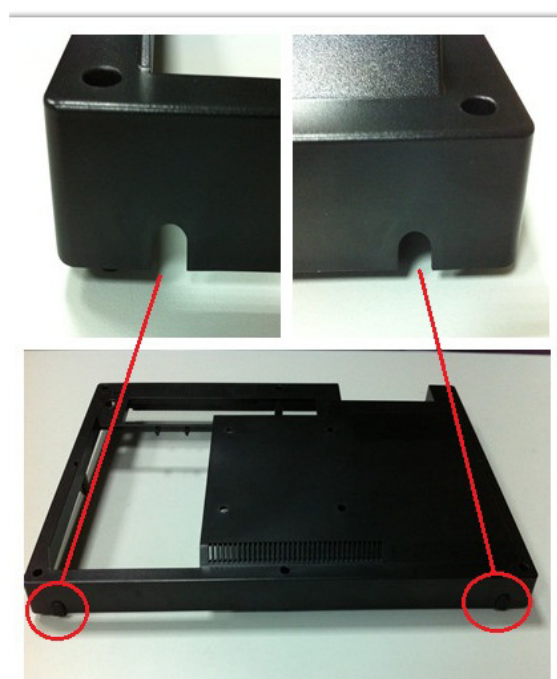

Figure 2.19
3. Remove the two plugs on the left and right sides of the rear cover. (See Fig 2.19)